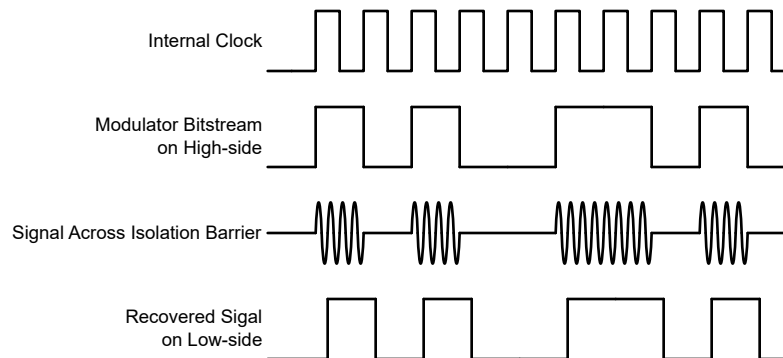

Figure 7-1. OOK-Based Modulation Scheme
As shown in Figure 7-1, the AMC0381D uses an on-off keying (OOK) modulation scheme to transmit the modulator output bitstream across the SiO₂-based isolation barrier. The transmit driver (TX) is illustrated in the Functional Block Diagram. TX transmits an internally generated, high-frequency carrier across the isolation barrier to represent a digital *one*. However, TX does not send a signal to represent a digital *zero*. The nominal frequency of the carrier used inside the AMC0381D is 480MHz.